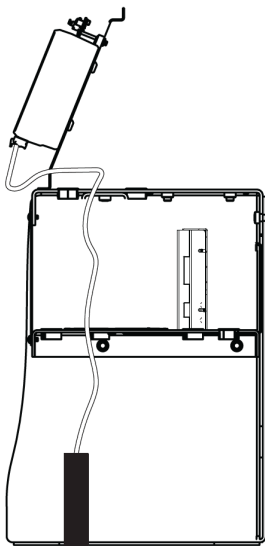

Figure 61. Route Relay Wires
2. Route the relay wires to the SmartTouch 725 Controller (Figure 61).